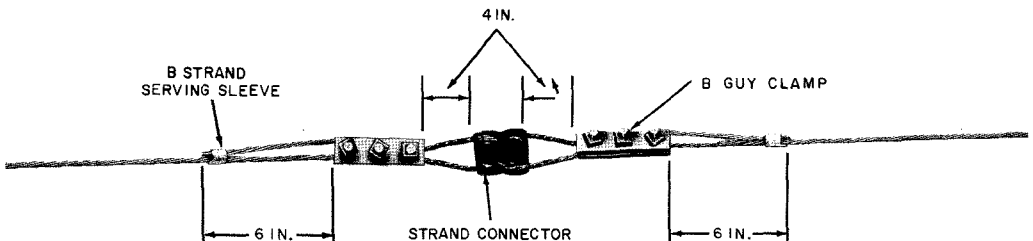

Fig. 1—6M, ϕ 6.6M, ϕ or 10M Strand Connection at Midspan
2.02 Figures 1, 2, and 3 illustrate the number and spacing of guy clamps for each strand size.